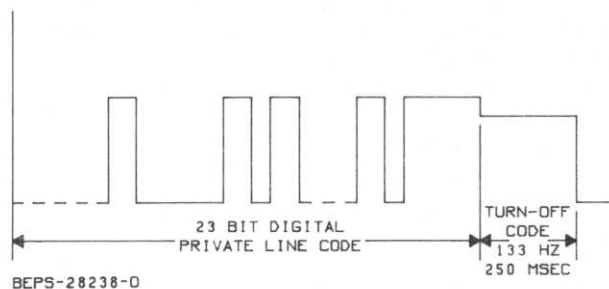

Figure 2-3. "Digital Private-Line" Signal Detail
2.3.3.2 The DPL code is entered into memory and then is generated when the CYCLE switch is in either the **CONT** or **BURST** position. Since DPL is continuous modulation, the CYCLE switch is placed in **CONT** position. The code amplitude is controlled by LEVEL **A**. The signaling sequence for DPL is shown in Figure 2-3. Note that 133.0 is generated for 250 milliseconds at the end of the signaling sequence. This is the DPL turn-off code and appears at the end of all DPL signals. The following example shows how to program a DPL code.